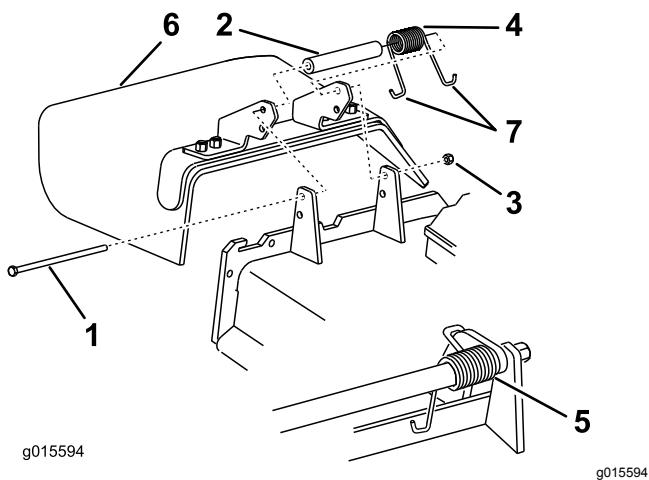

Figure 122
1. Remove the locknut, bolt, spring, and spacer holding the deflector to the pivot brackets (Figure 122).
2. Remove the damaged or worn grass deflector (Figure 122).
Note: Make sure that 1 J-hook end of the spring is installed behind the deck edge before installing the bolt as shown in Figure 122.
6. Place 1 J-hook end of the spring around the grass deflector (Figure 122).